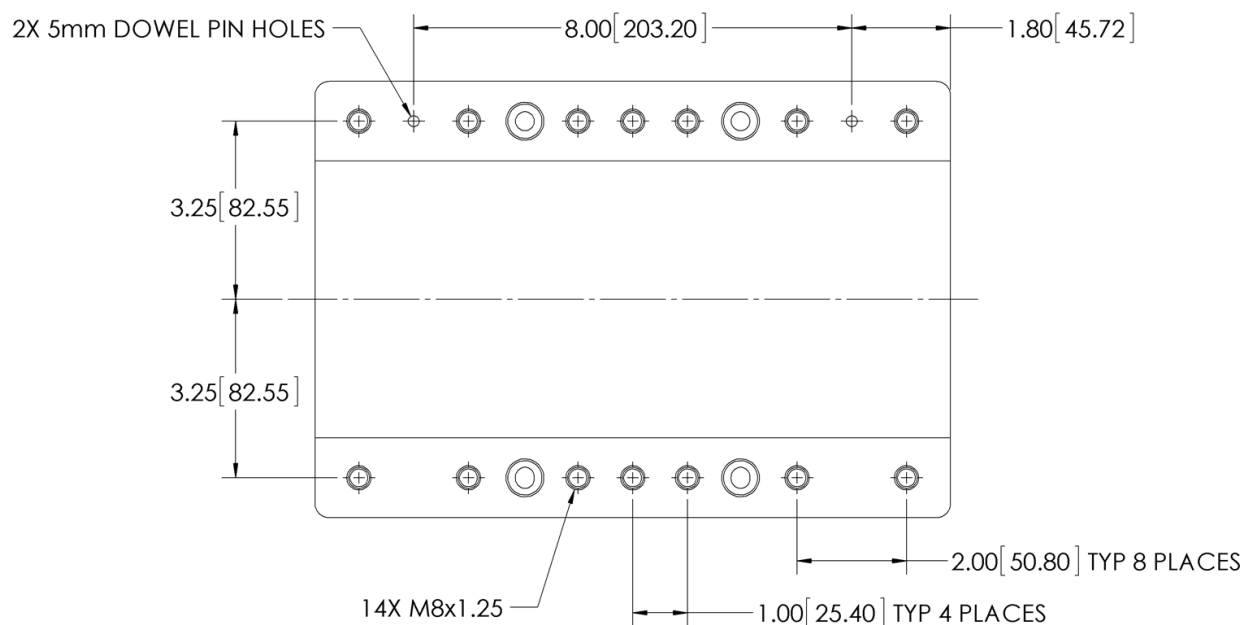

Figure 1: Carriage Bolt Hole Pattern
The bolt pattern on the Carriage has been designed to facilitate process equipment installation. The Carriage has (14) fourteen M8x1.25 mounting holes with a depth of 0.52 inch (13 mm) to provide secure attachment points. The mounting holes are spaced as shown in Figure 1. The Carriage also has (2) two 5mm dowel pin holes to facilitate alignment. (See Figure 1 for location) These dowel pin holes are oversized to allow the